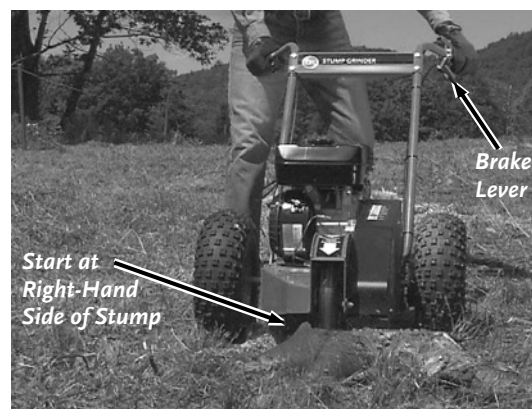

Figure 13
3. Move the Stump Grinder into position with the Cutter Head at the right side of the stump on the edge closest to you (not touching) near the top edge (**Figure 13**).